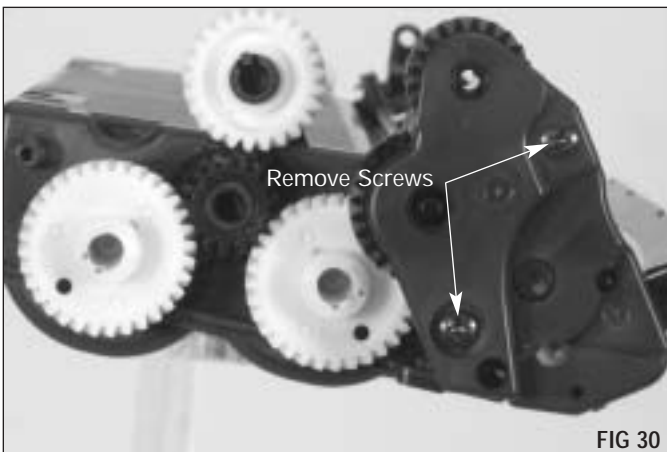

FIG 30
2. Remove the drive side End Plate by removing the 2 screws securing it to the cartridge (FIG 30).